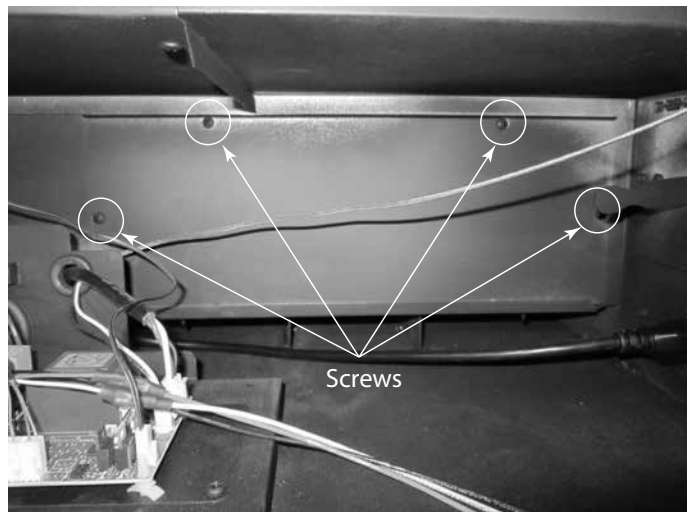

Figure 4.15 Remove Screws From Access Panel
- Remove the (4) screws from each fan access panel and pull them forward and out. See Figure 4.15.